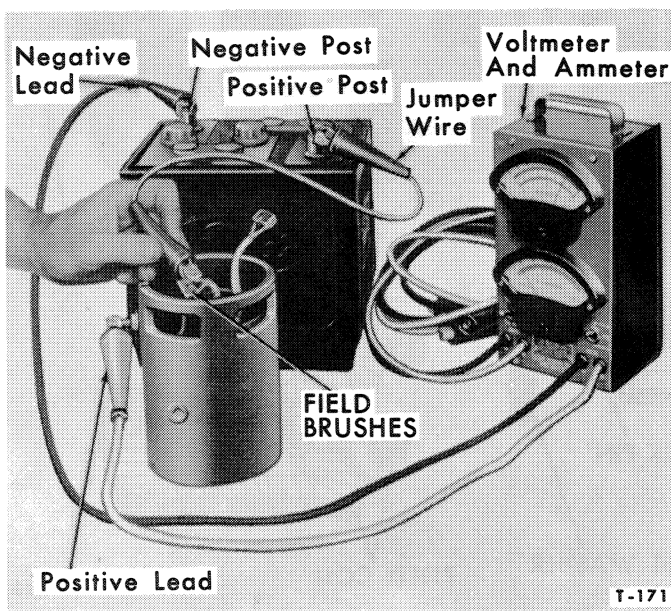
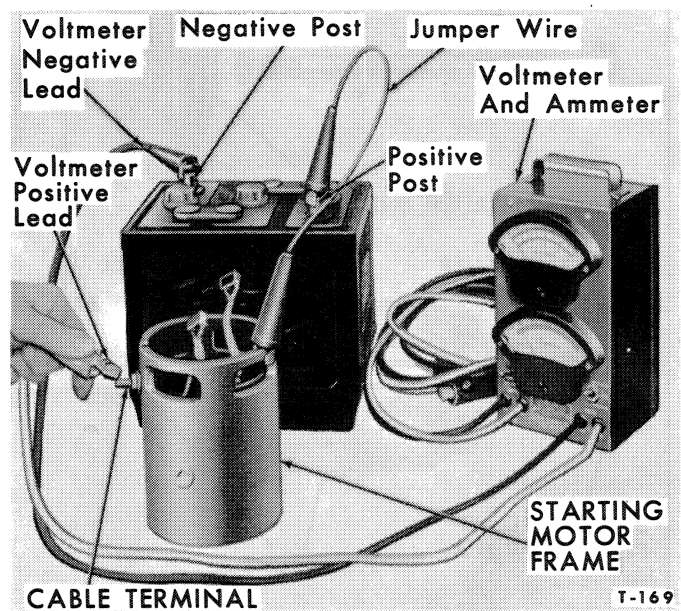

Figure 23—Checking Field Coils for Open Circuit
Figure 24—Checking Field Coils for Grounded Circuit
1. Connect a voltmeter lead and a battery lead to the frame and contact the other voltmeter lead to each brush as shown in Figure 23. If no reading is obtained on the voltmeter, the field circuit is open and the field coils must be replaced. Connect the voltmeter and battery as shown in Figure 24. If the voltmeter shows any voltage, the field coils are grounded and must be replaced.